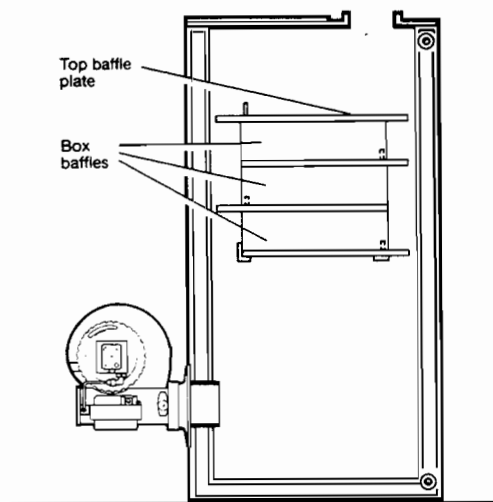

Fig. 3
- 5.5. Replace the heat exchanger baffles and make sure they are correctly seated on their supports. See Fig. 3.